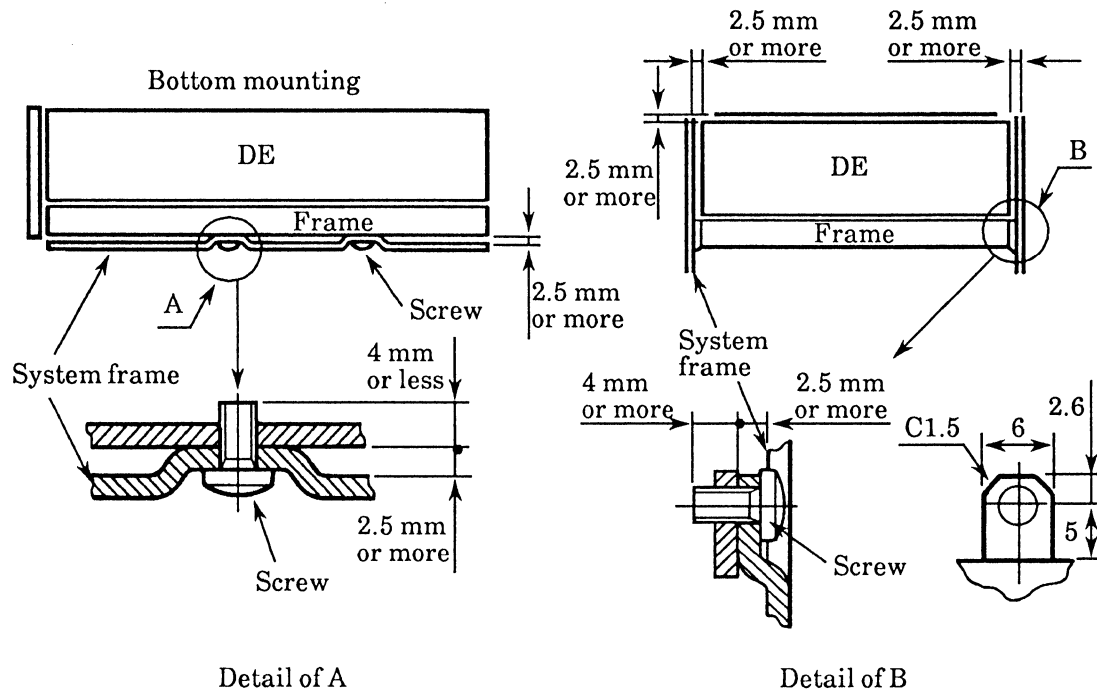

Figure 3.4 Frame structure
Figure 3.4 illustrates the structure of the frame.
- ① To prevent the DE base from contacting the FG, use an embossed frame, as shown in Figure 3.4, or a similar frame that holds the disk drive at least 2.5 mm away from the system frame.
- ② As shown in Figure 3.4, be sure the mounting screws project no more than 4 mm from the outer surface of the disk drive mounting frame.